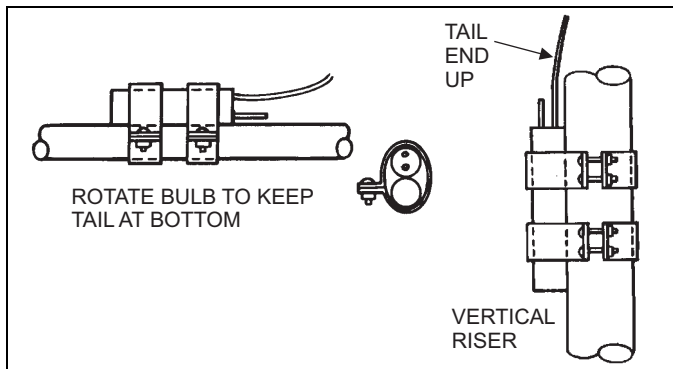

FIGURE 7: Bulb Location
4. Secure the TXV bulb to the suction line with the clamp provided. Choose a horizontal location as close to the cabinet as possible, but not directly on the brazed connection joint. Refer to Figure 7.
6. If the suction line is 3/4" diameter - position the bulb near the top of the copper tube as shown. If the tube is 7/8" diameter - position the bulb near the bottom of the tube. Refer to Figure 7.